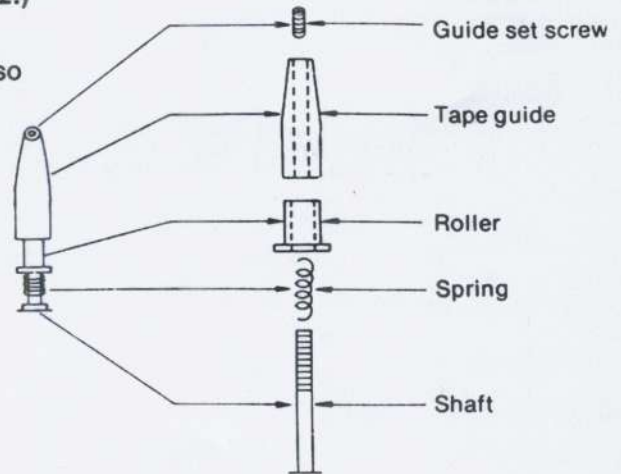

Fig. 32
Adjustment of Tape Guides (A) (Refer to figure 32.)
- (1) Loosen the guide set screw.
- (2) Begin tape movement, and turn tape guides so that tape is at center of guide (B).
- (3) After adjustment, tighten the guide screw.